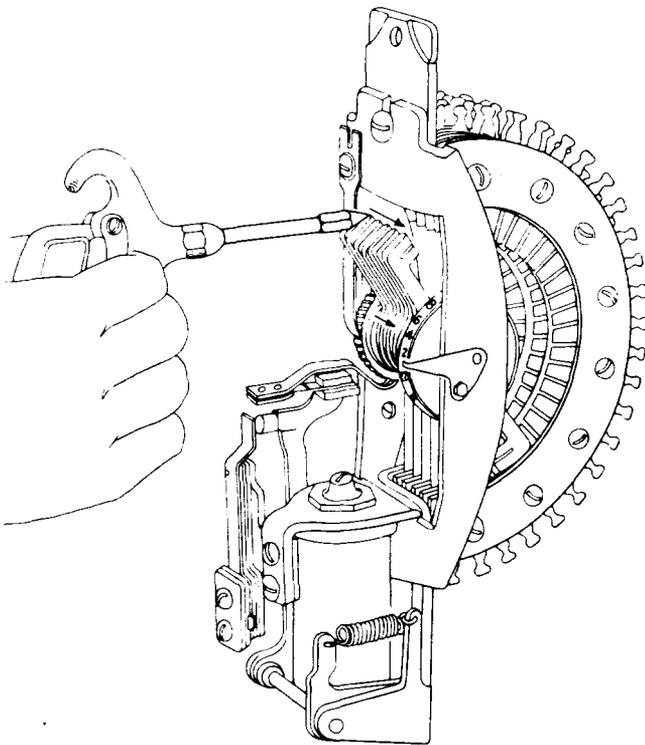

Fig. 5—206-, 209-, and Similar-Type Selectors
**5.33** To clean rotary selectors, it is desirable to have the rotor brushes in motion. Clean by moving the air nozzle slowly across the top of the selector bank in the manner suggested by Fig. 5, exercising care that the brushes do not strike the nozzle. Then with the nozzle directed at the rotor brush shaft, move it slowly across the length of the shaft. The selector, if in motion, may then be stopped.